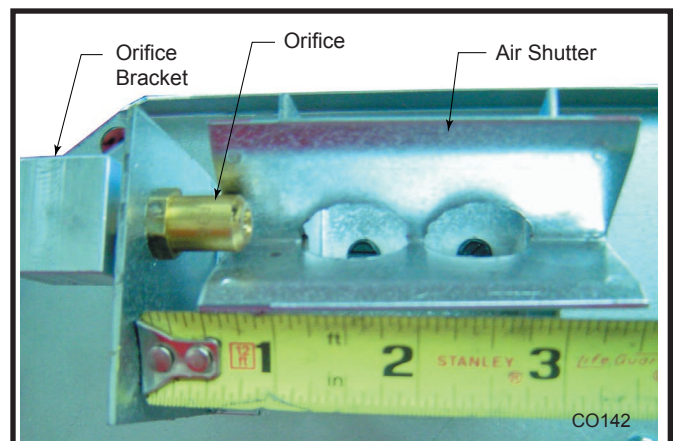

**Fig. 75** Tilt ember bed slightly to correctly place on venturi and air shutter.
2. Carefully remove ember bed by tilting the right side up and lifting out toward the right side of the unit. (Fig. 75)
1. Replace burner making sure venturi on bottom of ember bed aligns with orifice and is seated properly on air shutter assembly. (Fig. 75) Make sure burner is slid into place at a slight angle and opposite to how it was removed. When burner is slid into place, the three (3) pem studs should slide down through clearance holes into the bottom of the control panel.